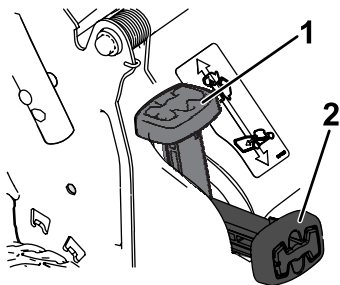

Figure 13
- To bag the grass and leaf clippings, press the button on the bag-on-demand lever and move the lever forward until the button on the lever pops up (Figure 13).